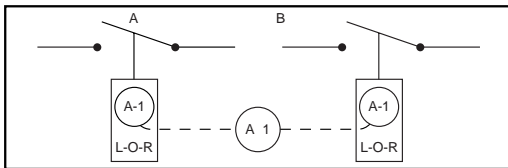

Figure 1
**Sample Application—1 (See Figure 1)**
Two devices are shown in Figure 1. In operation they are not closed at the same time. With the interlocks arranged as shown only one key is required in the interlocking system. Both devices are shown open, therefore, the key is free. To close any one device the key is inserted and turned in that particular lock, the key is held in this lock until the device is again locked open. This simple interlocking sequence lends itself to a multitude of applications. The procedure is the same for two devices, neither of which is to be opened at the same time.